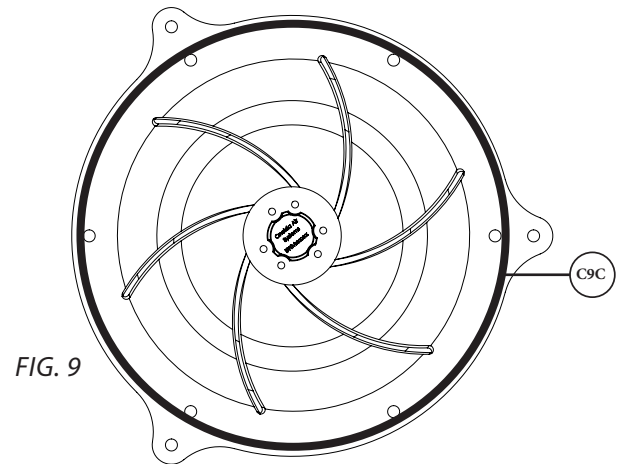

FIG. 9
- 9** Apply the Gasket (C9C) to the motor plate as shown in [FIG 9], making sure that there is no gap where the ends meet.